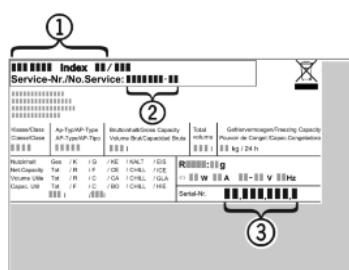

Fig. 10
- Read the appliance designation Fig. 10 (1), service No. Fig. 10 (2) and serial No. Fig. 10 (3) off the model plate located inside the appliance on the left-hand side.
- Notify the customer service, specifying the fault, appliance designation Fig. 10 (1), service No. Fig. 10 (2) and serial No. Fig. 10 (3).